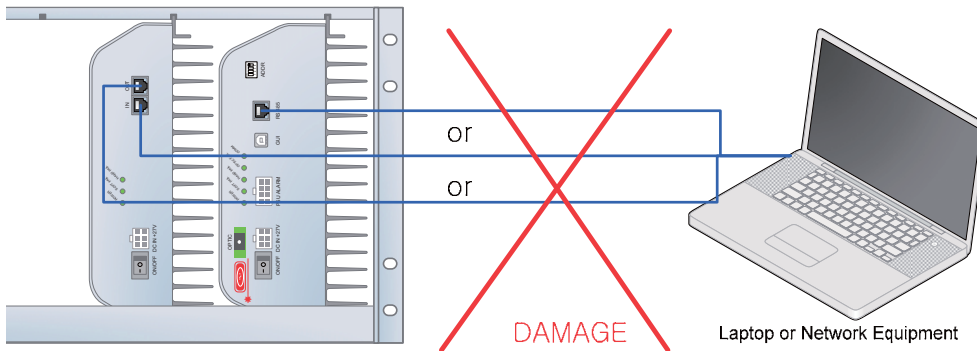

Figure 3-38 Do NOT connect RS-485 ports of Sub RU to network equipment port
- **WARNING! The RS-485 ports should NEVER be connected to the Ethernet port of laptop or Ethernet Network Equipment. Doing so may cause serious damage to the sub RUs or network equipments. (Figure 3-38)**